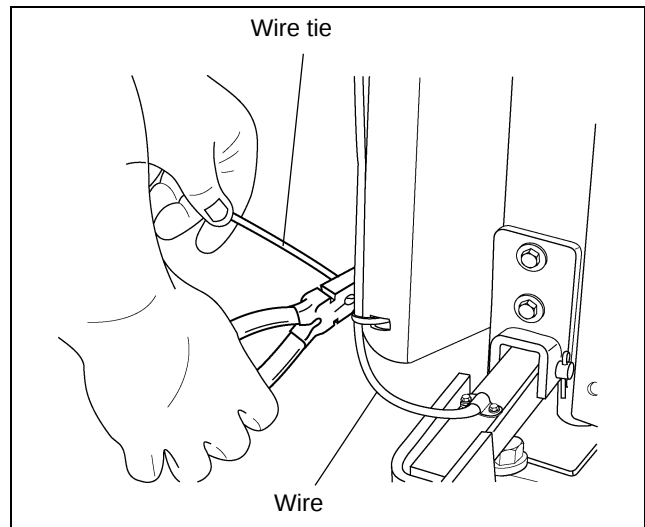
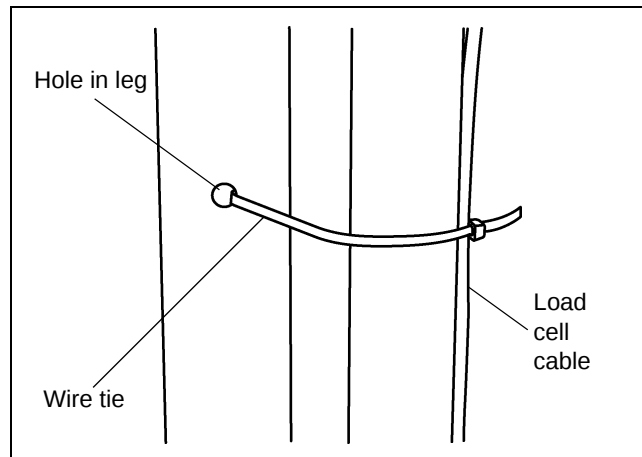
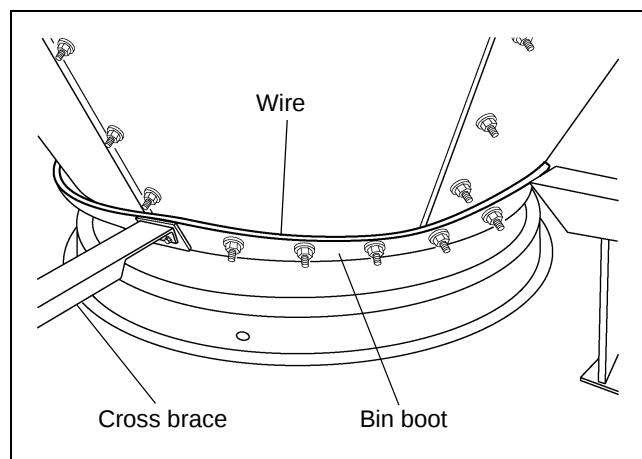

Figure 4O Fasten Wires with Wire Ties
Figure 4P Run wire tie through holes in bin legs to attach cable to legs.
Figure 4Q Run wires around the boot of the bin.
2. Run cable from load cell up bin leg using wire ties (not included) to fasten into place. Run cable along the cross brace to the center of the bin. Then take cable around bin boot and back up the leg that the display or junction box is mounted to Figure 4O, Figure 4P and Figure 4Q.